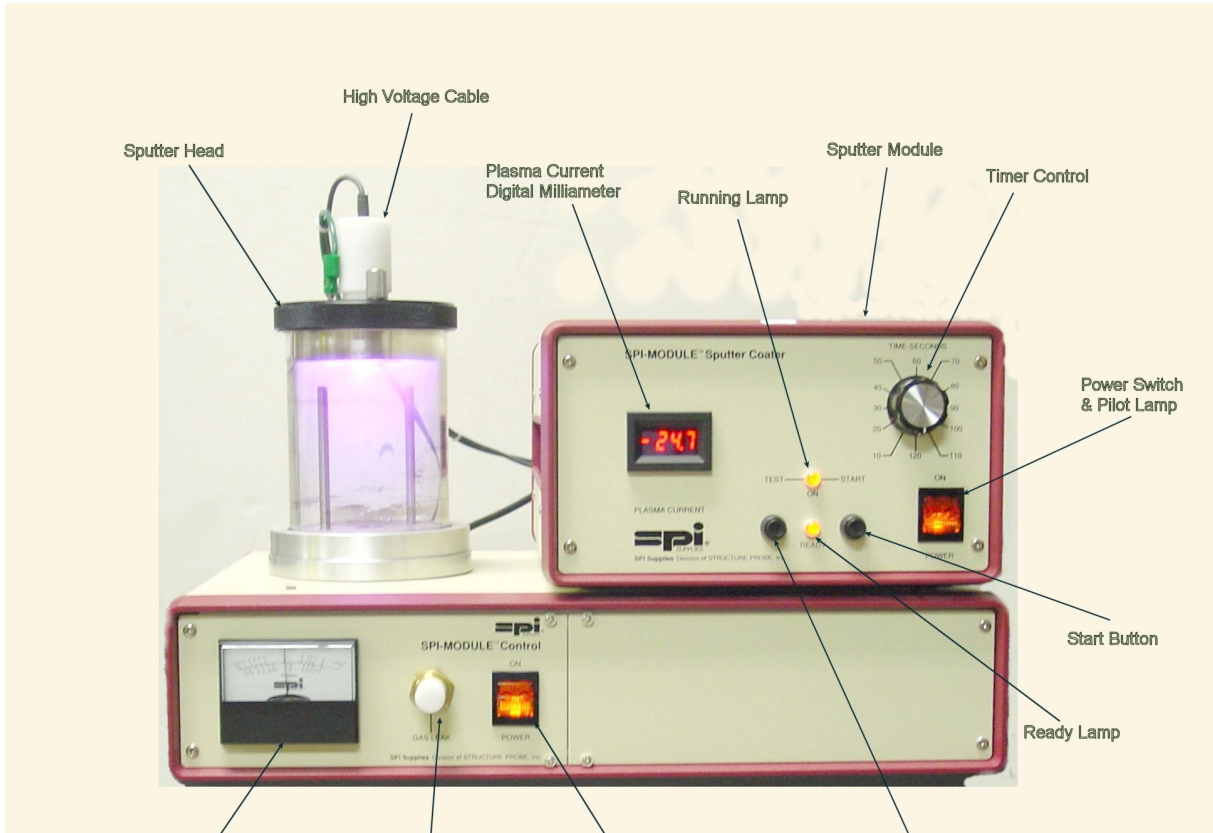

Figure 1
Figure 1 and Figure 2 show the module as installed on the Vacuum Control Base. The front panel controls are the Timer Set Knob in the upper right hand corner this sets the amount of time in seconds (from 10 to 120) the sputtering continues thus the thickness of the layer of gold applied. The Sputter-Off-Etch switch this selects the mode of operation either sputtering or etching. The "TEST" button initiates sputtering for as long as the button is held depressed this is useful for setting the sputtering current initially. The "START" button which initiates sputtering and the time is determined by the setting on the timer. Two pilot lamps are used to indicate primary power is on this is labeled "READY" and the other indicates sputtering is in progress it is labeled "TEST -START". Also included are the main power switch labeled "POWER" and a milliampere meter (0-50 ma) labeled "PLASMA CURRENT" this is used to monitor and set the plasma by adjusting the vacuum via the needle valve on the Vacuum Control Base.
Unpack the SPI-SPUTTER COATER MODULE and place it on top of the right side of the SPI - VACUUM CONTROL BASE. Place the glass chamber on the base plate of the VACUUM CONTROL BASE it should fit snugly into the groove and seal against the "O" ring in the bottom of the groove. The sputter head is mounted on the top of the chamber in the groove and seal against the "O" ring in the groove refer to the illustrations figures 1&2. Connect the high voltage cable white connector to the central banana plug on the sputter head and the other end into the jack on the back of the SPI-SPUTTER COATER MODULE the green ground wire is inserted into the hole on the sputter head and goes to the green jack on the back of the SPI-SPUTTER COATER MODULE *. The SPI-SPUTTER COATER MODULE power cord is connected to the module power receptacle on the rear of the VACUUM CONTROL BASE.
- Figure 1 Front view of module on vacuum base